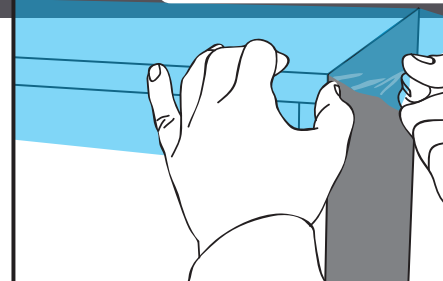

Figure 08
- › Apply the film over one of the edges of the table by folding the film over the angle of the edge. (FIG. 08)